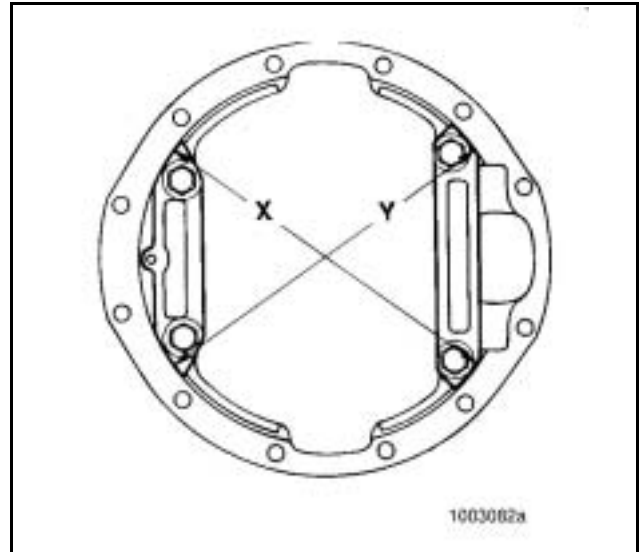
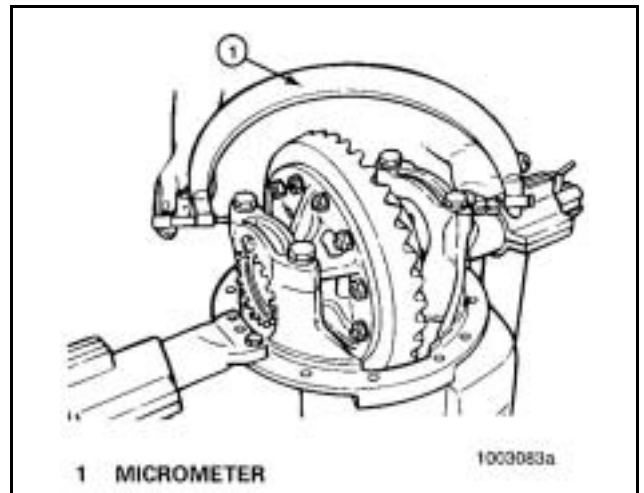

Figure 104
Figure 105
2. Measure the distance X or Y between opposite surfaces of the bearing caps. Use a large micrometer of the correct size. **Figure 104** and **Figure 105**. Record the measurement.